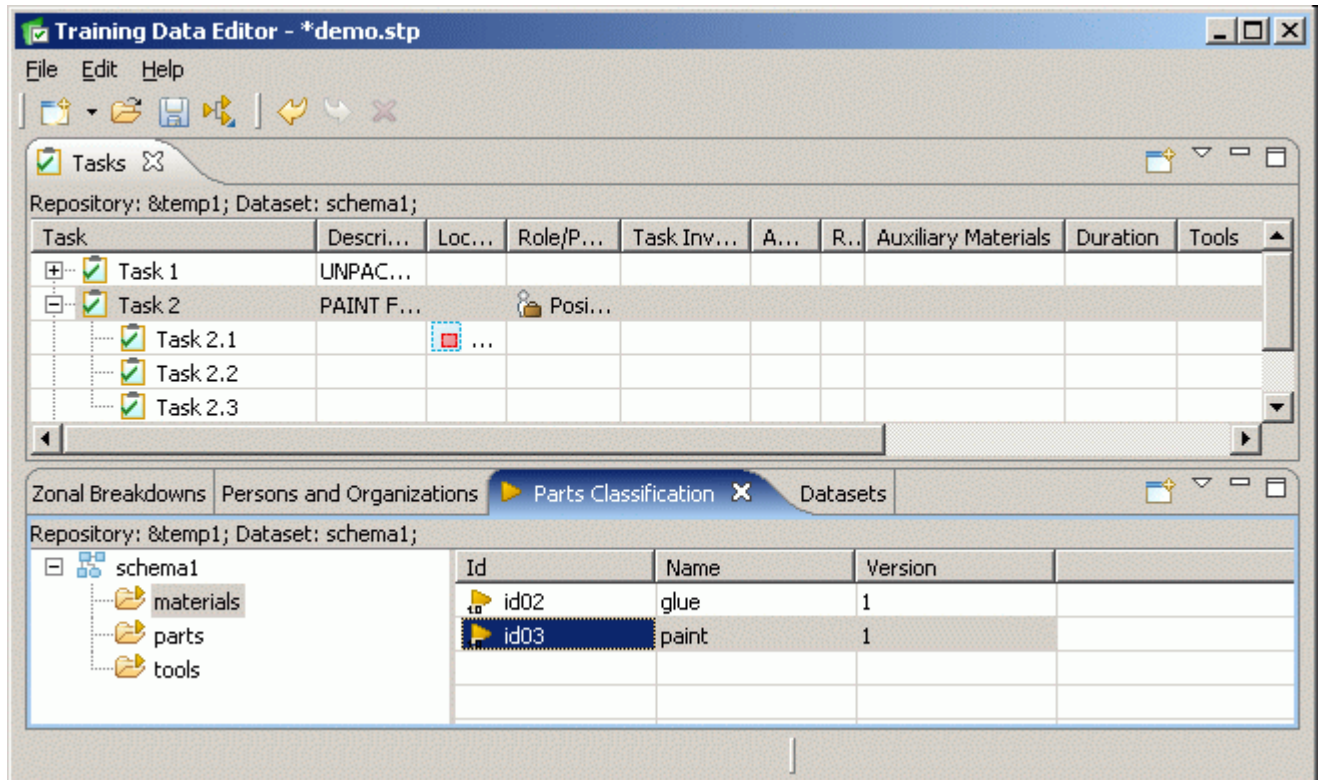

Figure 1. Task and Parts Classification windows in TDE
- Ensure that ✓ Tasks and ► Parts Classification windows are opened (see Figure 1).
- Click on an applicable ► part in the table (on the right side of the ► **Parts Classification** window), which should be added as an ► auxiliary material for the selected task. The selected object is highlighted in the table list (see Figure 1).